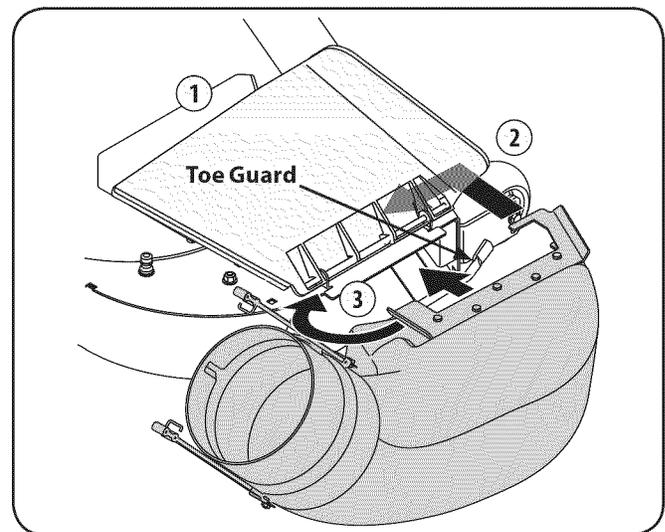

Figure 4-18
1. Lift the chute deflector up (1) and place the chute elbow along the opening on the cutting deck of the mower.
2. Slide the two ends of the boot mount, attached to the discharge chute elbow, under the chute deflector mounting bracket, beginning with the front portion of the bracket (2) and rocking the back portion into place (3). Follow direction of arrows in Figure 4-18.
**Note:** Make sure the longer end of the boot mount firmly secures around the bolt head on the chute mounting bracket. The other end of boot mount should be securely placed between the chute mounting bracket and the flange of the deck opening. See Fig. 4-18.
**Note:** For the chute elbow to be properly installed, the bottom edge of the chute elbow must fall below the toe guard. See the call-out in Fig. 4-18.